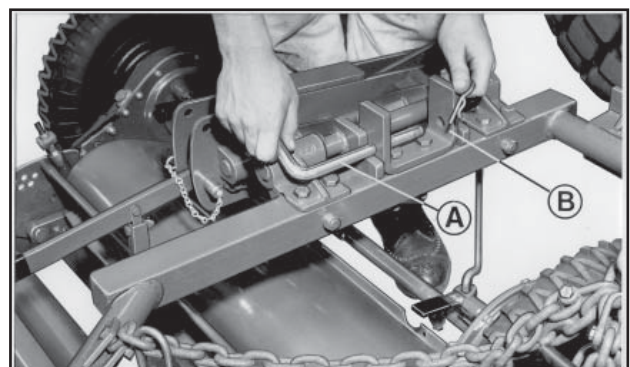

Fig 28
1. (Fig. 28). Remove locking pins (A) from hole in brackets (B) at both sides of the machine.
4. (Fig. 28). Replace locking pins (A) in brackets (B) at both sides of the machine.